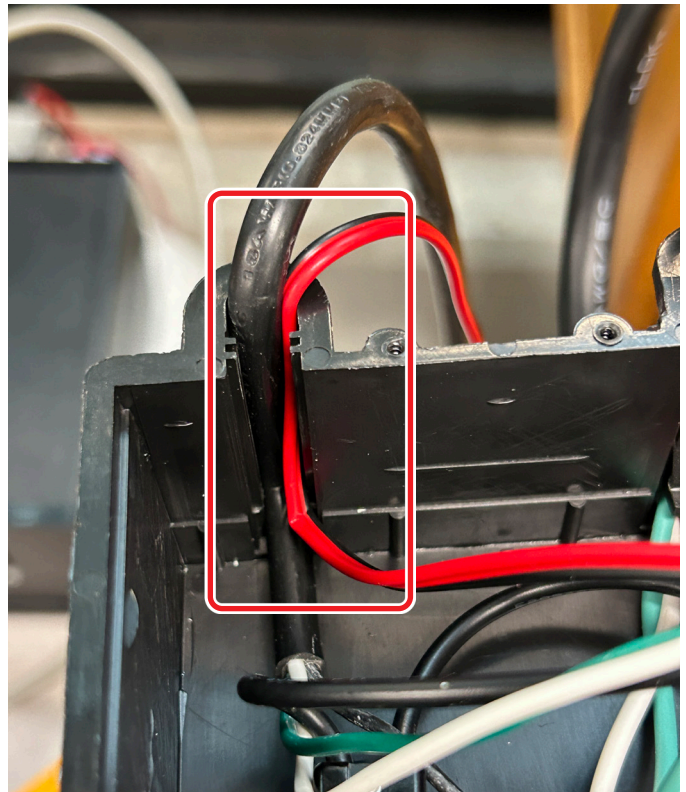

FIGURE 10
- H. Then install your wires next to the power cord with enough lead on the inside to connect your wires to the speed control board (see Figure 10).